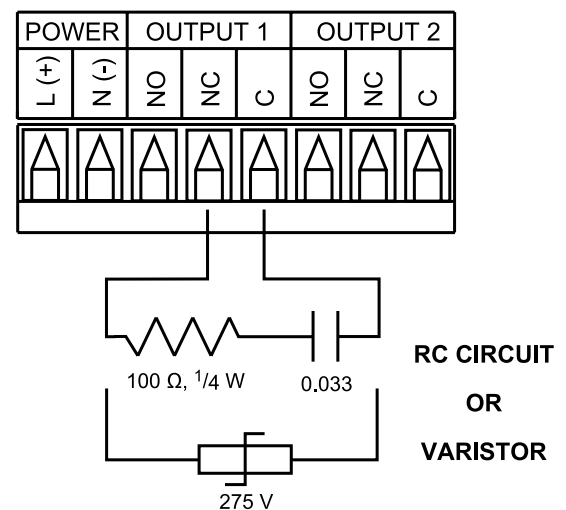

Figure 2.10
Note ⚠ If you have an inductive load connected between Common (C) and Normally Closed (NC) contacts of the mechanical relays and you want to protect them from the rush current during the switching period, you have to connect an external snubber circuit between Common (C) and Normally Closed (NC) contacts as indicated in **Figure 2.10**.